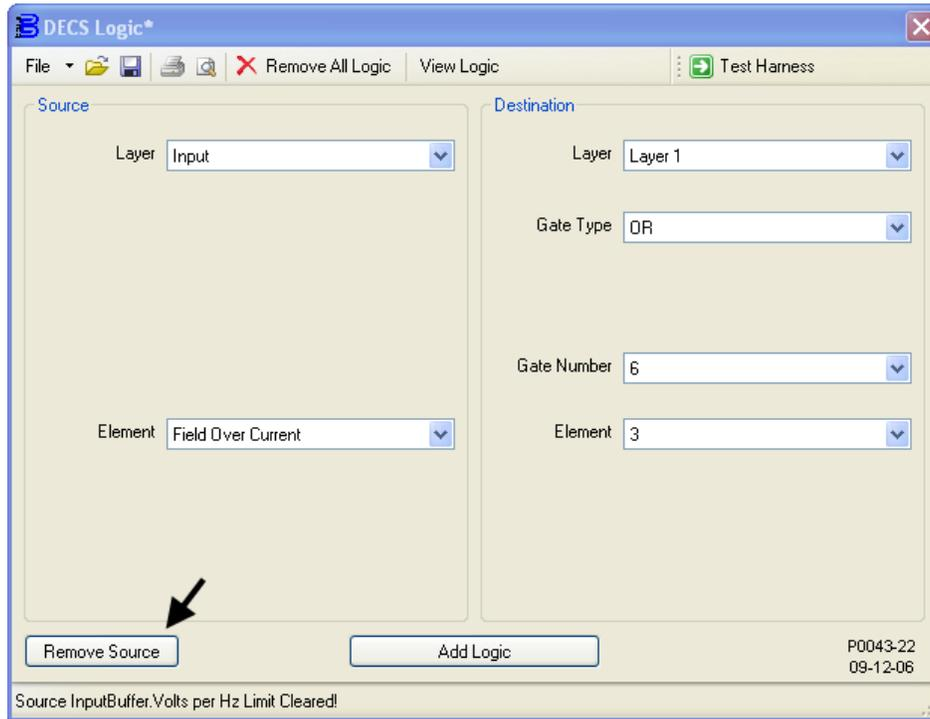

Figure 9-18. Deletion of Layer1 InputBuffer.Field Over Current ---> Or6.Input3
- Figure 9-18 illustrates the DECS Logic window settings associated with this step. Disconnect the Field Overcurrent Active input buffer from input 3 of OR gate 6 on logic layer 1. In Table 9-2, this association is identified by “DESTINATION: Layer1 – InputBuffer.Field Over Current → Or6.Input3”.